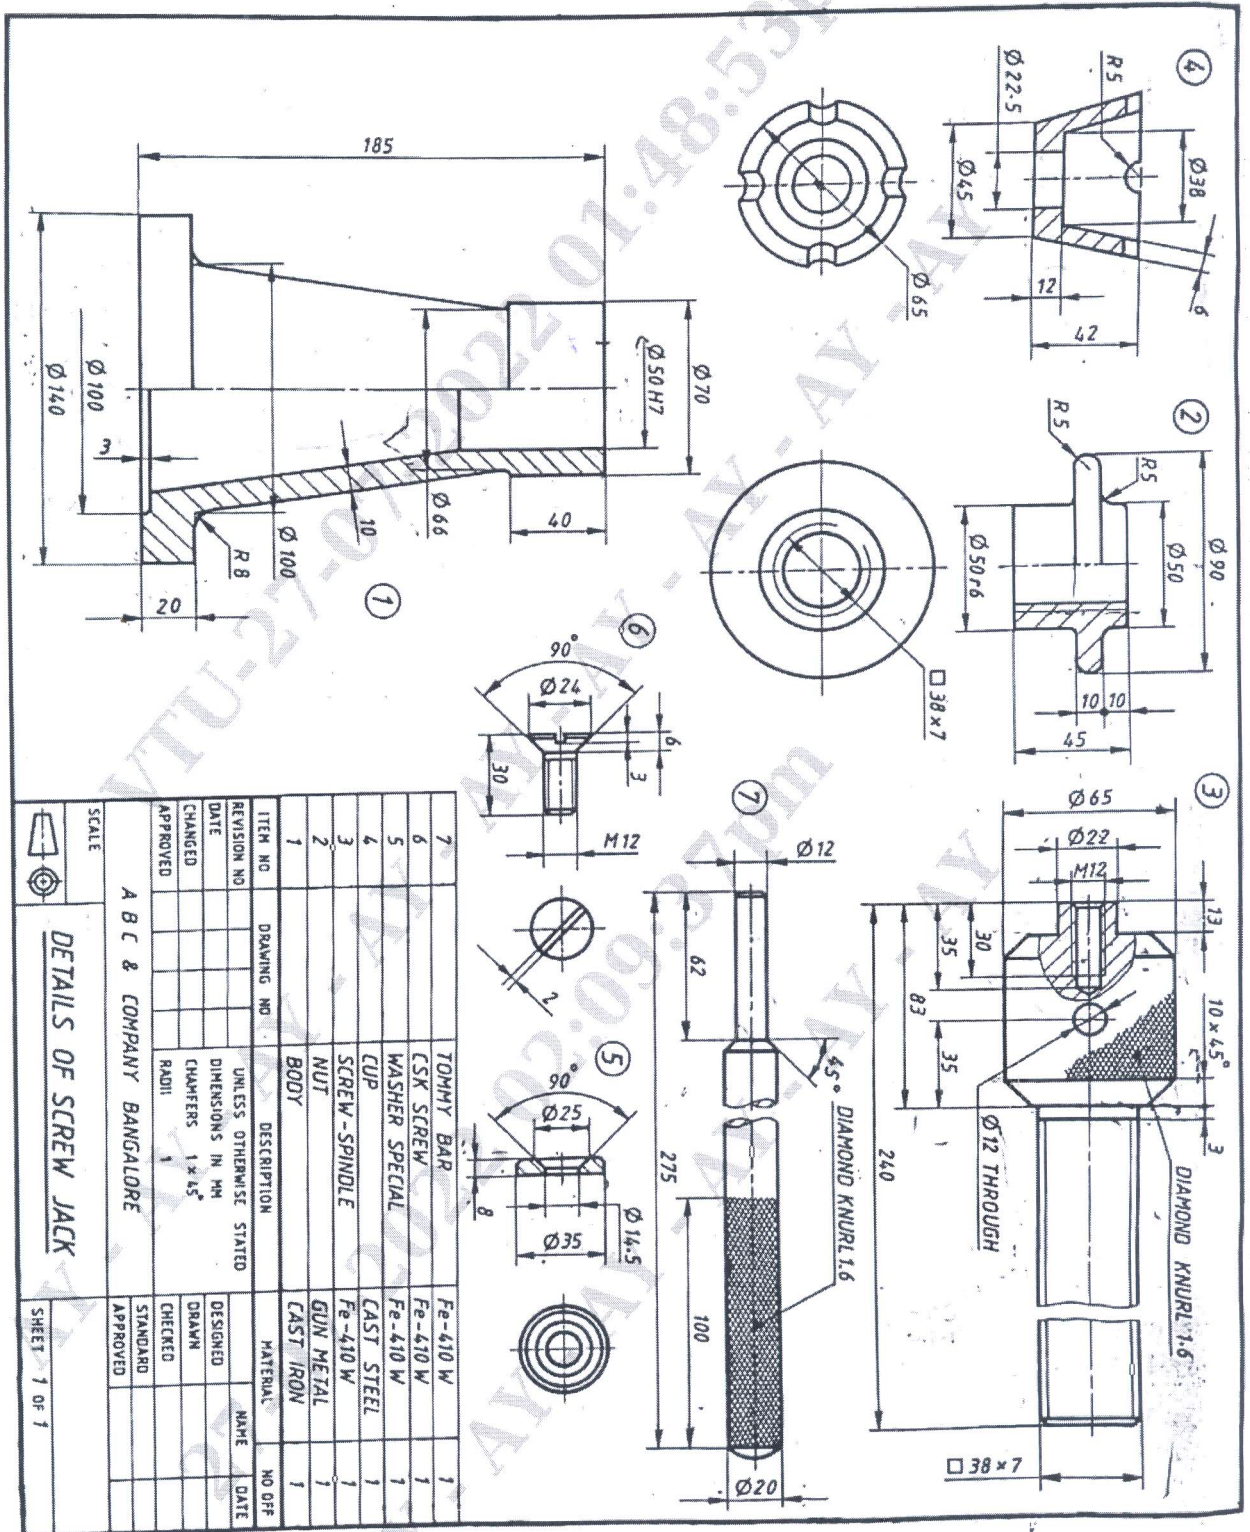

Figure 2: Details of Screw Jack
5. Figure 2 shows the details of a screw jack. Assemble the parts of the screw jack and show the following views.